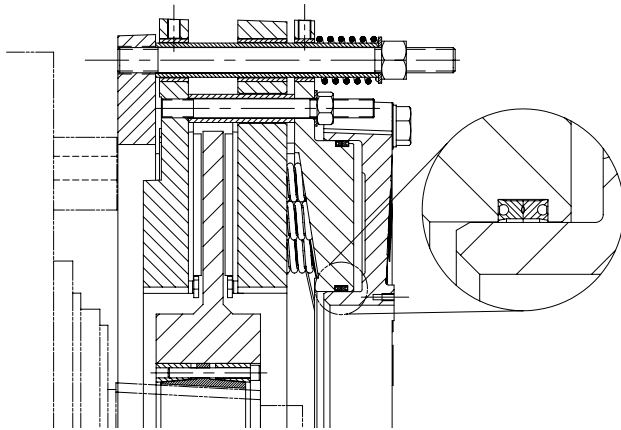

Figure 8
- 4.2.8 Insert new seals into the grooves, noting the orientation of the seals per Figure 8.